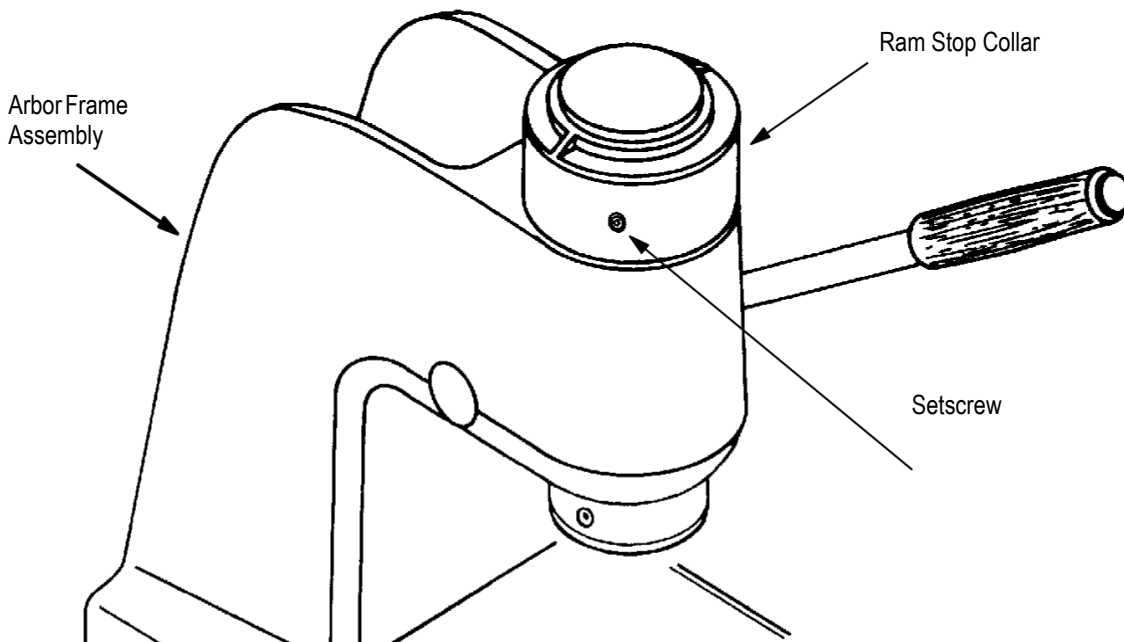

Figure 6
15. Loosen the ram stop collar setscrew, move the collar to the top of the arbor frame, then tighten the setscrew securely. Refer to Figure 6.